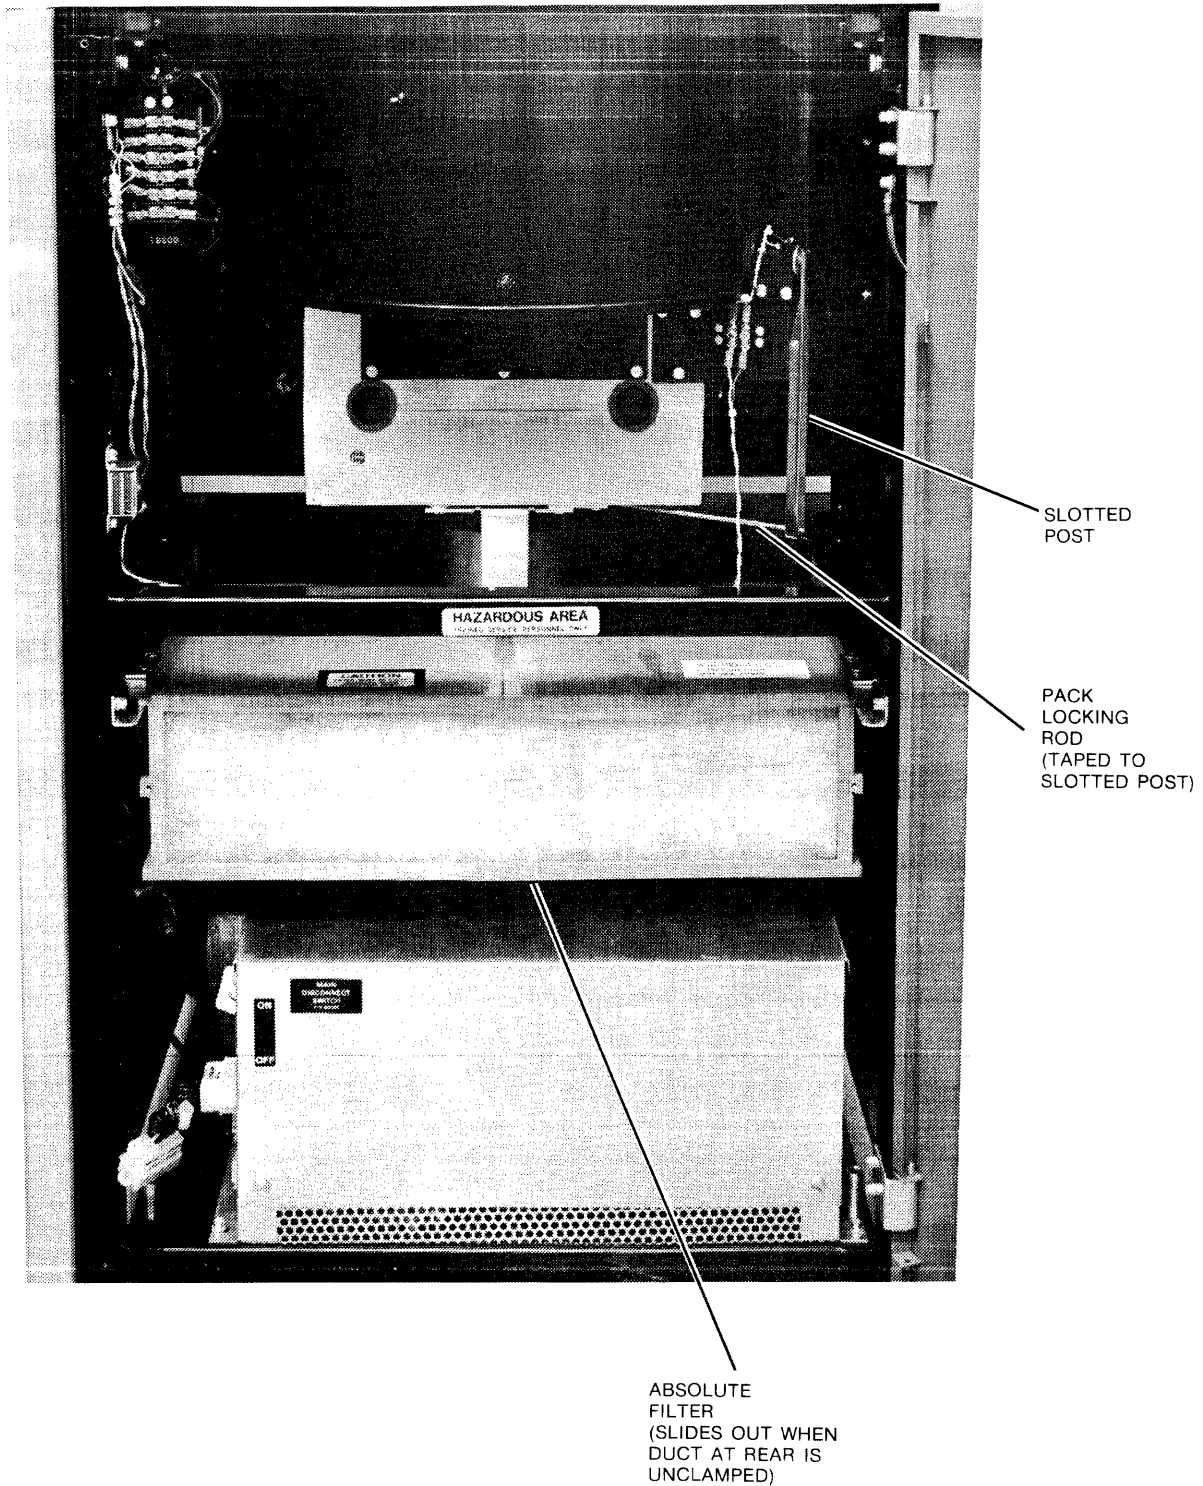

FIGURE 2-4. ABSOLUTE FILTER AND PACK LOCKING ROD
2. Provide room for accessing other shipping hardware (Steps 3 and 4 below) by removing the absolute filter (Figure 2-4). To remove the filter, reach through the left side of the drive with a screwdriver and remove the hose clamp at the rear of the filter, then slide the filter out.
6. Remove the tape that is wrapped around the disc pack locking rod and the slotted post (see Figure 2-4).